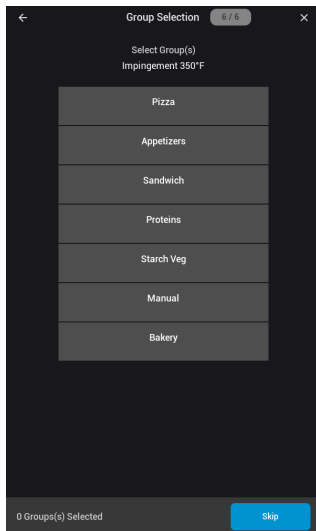

Figure 27: Select Groups to Place Recipe Into
11. Select which group(s) to which the recipe will be added (Figure 27, below).